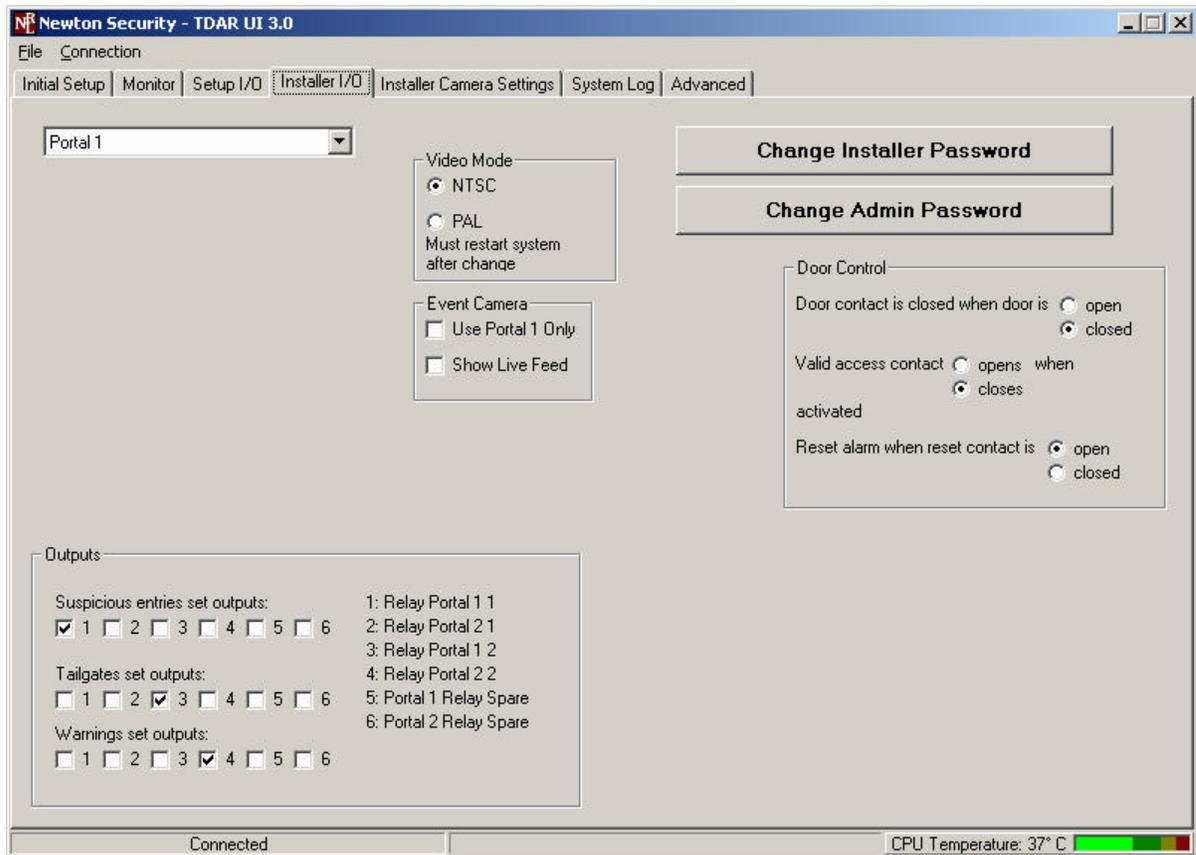

Figure 28 - Installer I/O
- If the count does not ever change, switch the display mode to Show I/O and observe the display of the I/O function on the screen. I/O assignments can be seen in Figure 28, page 60.